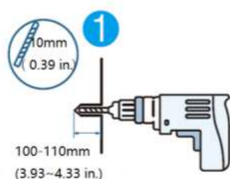

Figure 4-3
- g) Choose the recommend drill head (as shown in Figure 4-3) to drill 4 holes on the wall, 100mm-110mm deep.
- h) Use a hammer to secure the support to the wall, and install the expansion bolt in the hole, as shown in Figure 4-3.